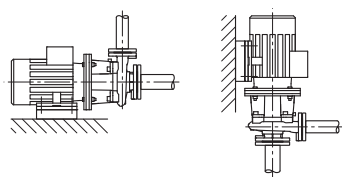
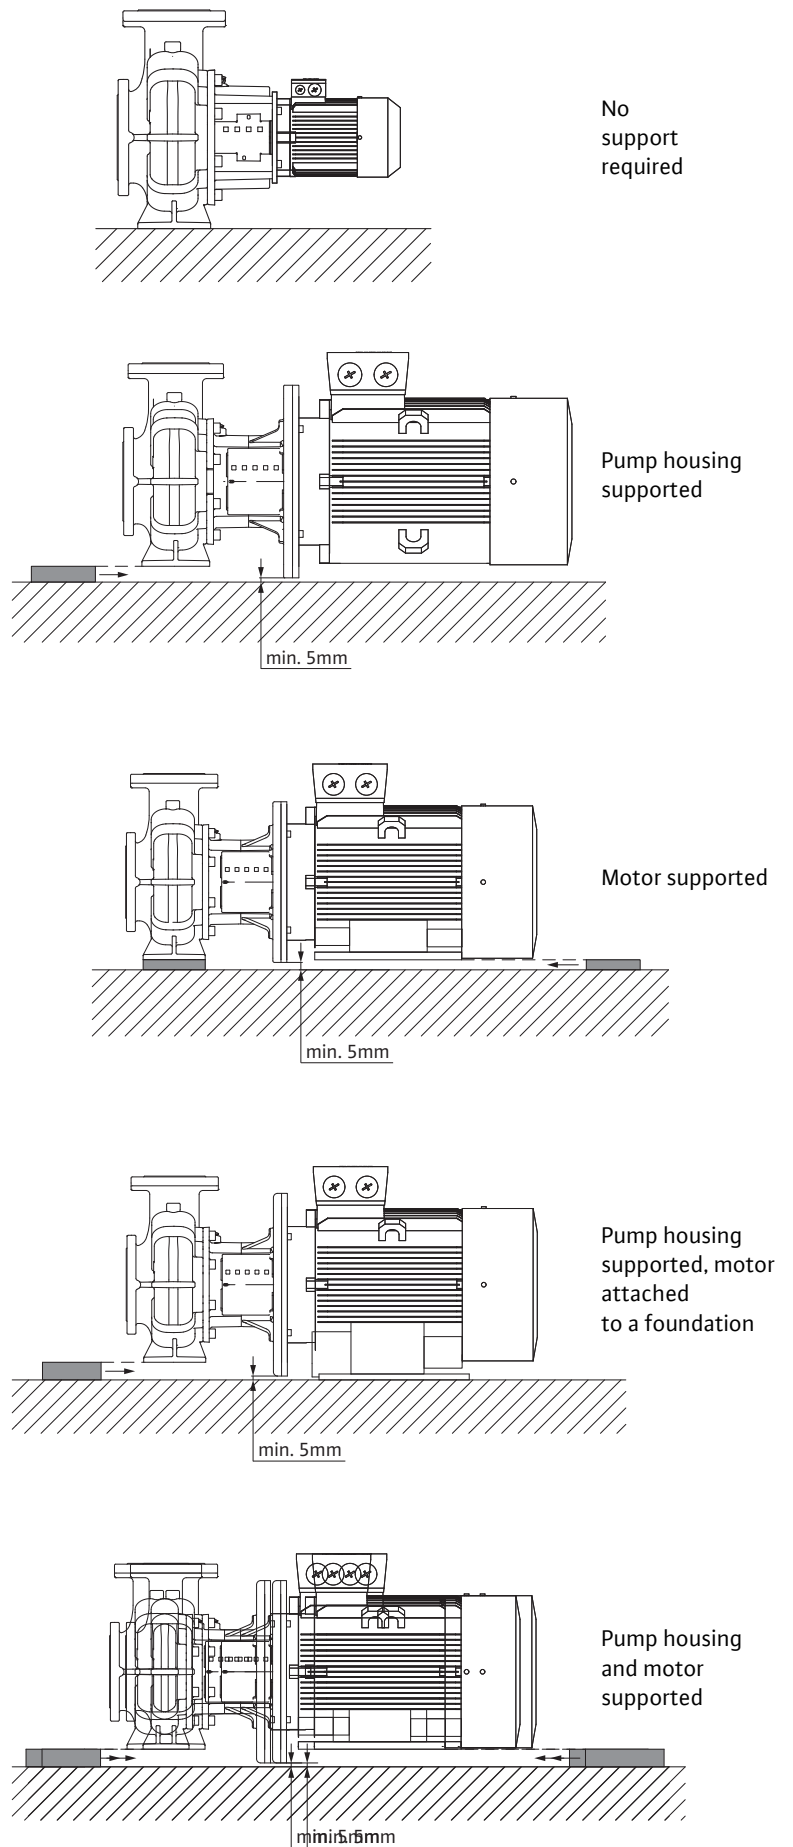

Fig. 41: Version BL
Fig. 42: Installation examples BL
- BL series monobloc pumps are to be mounted on a sufficiently strong base or mounting brackets (Fig. 41). For pumps of BL type, the motor must be supported from a motor power of 18.5 kW, see installation examples BL (Fig. 42).